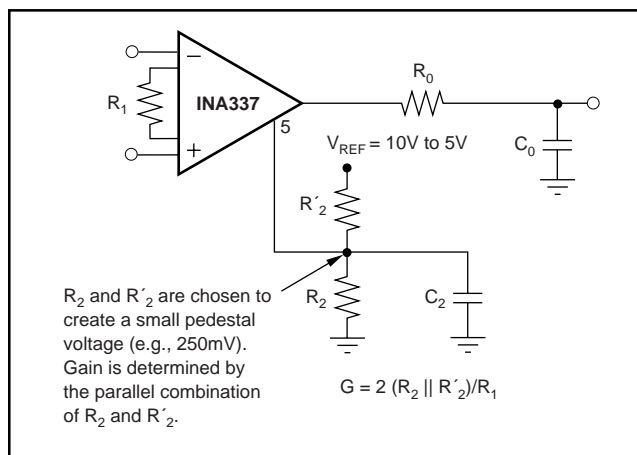

FIGURE 6. Output Range Pedestal.
NOTES: (1) C_2 and C_O combine to form a 2-pole response that is -3dB at 1kHz. Each individual pole is at 1.5kHz. (2) Output voltage is referenced to I_{A_COMMON} (see text). (3) Output pedestal required for measurement near zero (see Figure 6).